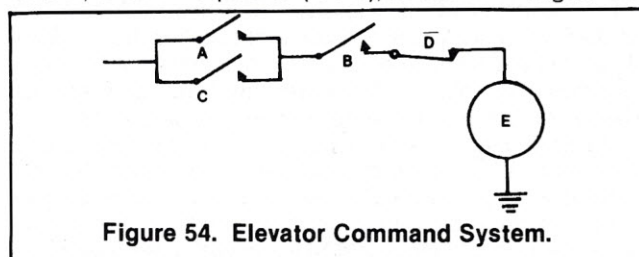
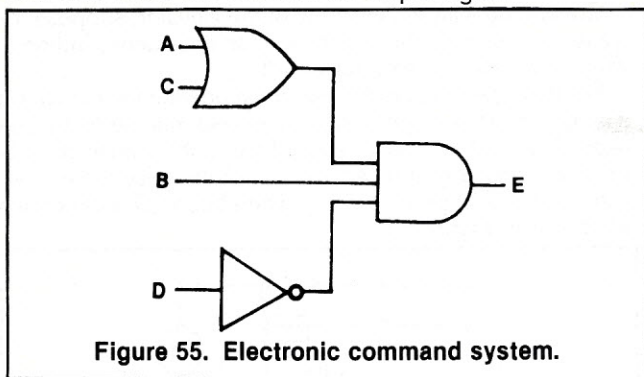

Figure 54. Elevator Command System.
Figure 55. Electronic command system.
We are now ready to make a complete command system. That is, we want an elevator (E) that can be started with either of two buttons, A or C, but only if the door safety button (B) is closed (on) and the emergency button (D) is off. Analyzing the requirements, we find that the contacts actuated by the relays of buttons A and C must be connected in parallel. We also have an AND relation between the contacts of relays B and D and the parallel $(A + C)$ relation. The requirements of the circuit will be accomplished by connecting in series contacts B, D and the parallel $(A + C)$, as shown in Figure 54.
In Figure 54 we show only the contacts and not the relays, since the contacts are actuated when the relays are excited and return to their normal position when the relay is not excited. Due to this direct relation between a relay and the contact (or contacts) that it controls, the contact (or contacts) of this relay can be identified by the same letter used to designate the function of the relay.
Figure 55 shows the equivalent computer logic circuit of Figure 54. Note in Figure 55 that in order to obtain an output E of this logic circuit the AND gate must receive a signal from the OR gate (signals applied either to A or C) and from branch B and from branch D; but in order to receive a signal from branch D, no signal must be present at the input of the inverter circuit.